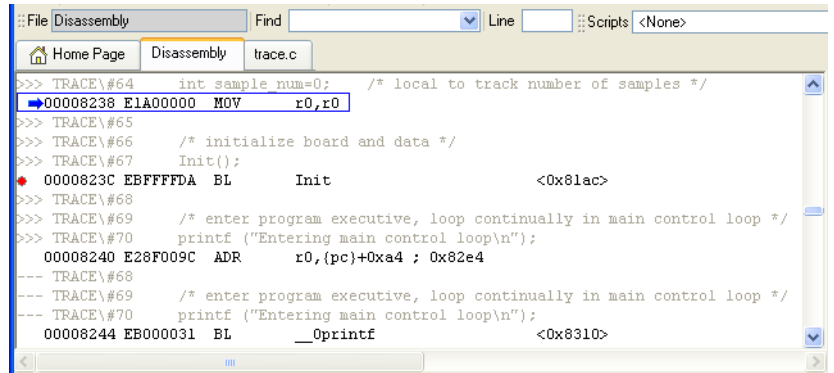

Figure 10-7 Tracing stops before the breakpointed instruction
- In the Code window, click the **Disassembly** tab in the Code window. This shows the line of disassembly corresponding to the selected line of the captured trace, indicated by the blue arrow and box. Figure 10-7 shows an example: